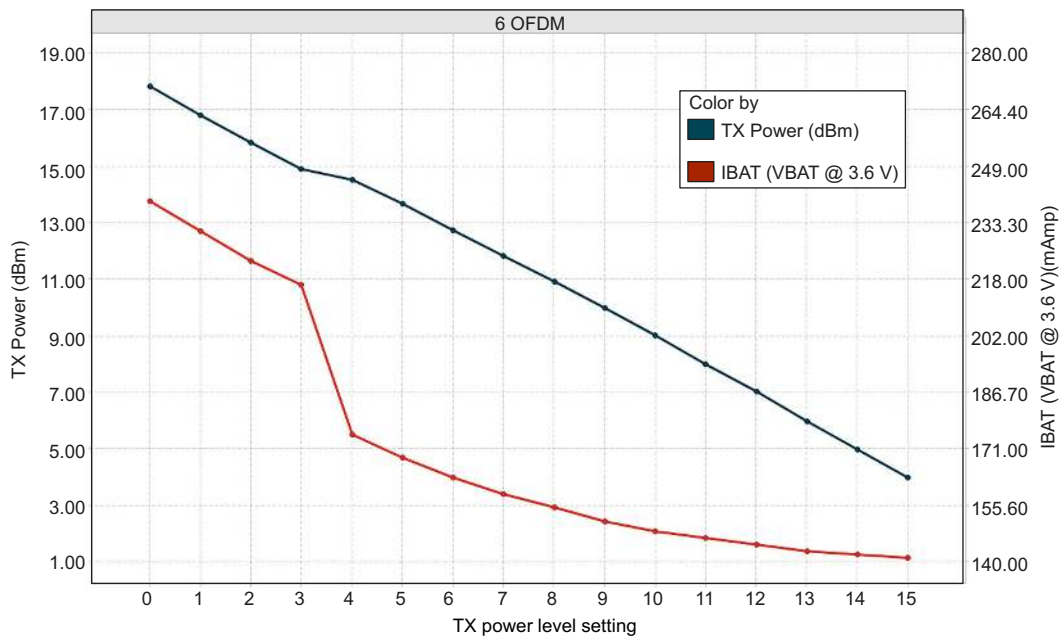
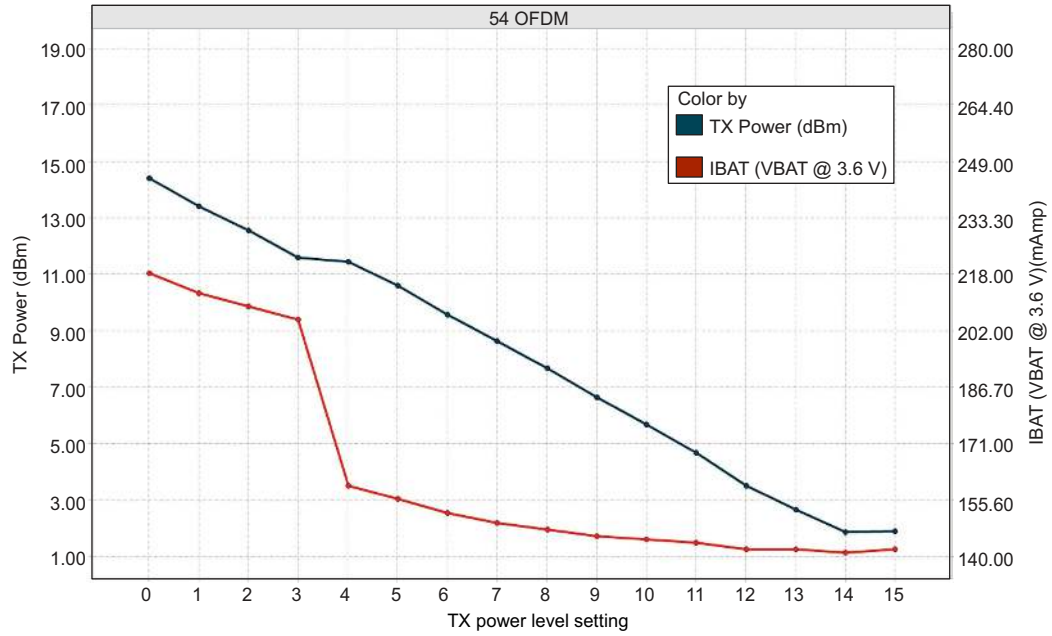

Figure 8-2. TX Power and IBAT vs TX Power Level Settings (6 OFDM)
Figure 8-3. TX Power and IBAT vs TX Power Level Settings (54 OFDM)
- (1) TX power level = 0 implies maximum power (see Figure 8-1, Figure 8-2, and Figure 8-3). TX power level = 4 implies output power backed off approximately 4 dB.
- (2) DTIM = 1
- (3) The complete calibration can take up to 17 mJ of energy from the battery over a time of 24 ms. In default mode, calibration is performed sparingly, and typically occurs when re-enabling the NWP and when the temperature has changed by more than 20°C. There are two additional calibration modes that may be used to reduced or completely eliminate the calibration event. For further details, see CC3120, CC3220 SimpleLink™ Wi-Fi® and IoT Network Processor Programmer's Guide.
- (4) The CC3120R system is a constant power-source system. The active current numbers scale based on the V_{BAT} voltage supplied.
- (5) For the 1.85-V mode, the hibernate current is higher by 50 µA across all operating modes because of leakage into the PA and analog power inputs.
- (6) The RX current is measured with a 1-Mbps throughput rate.